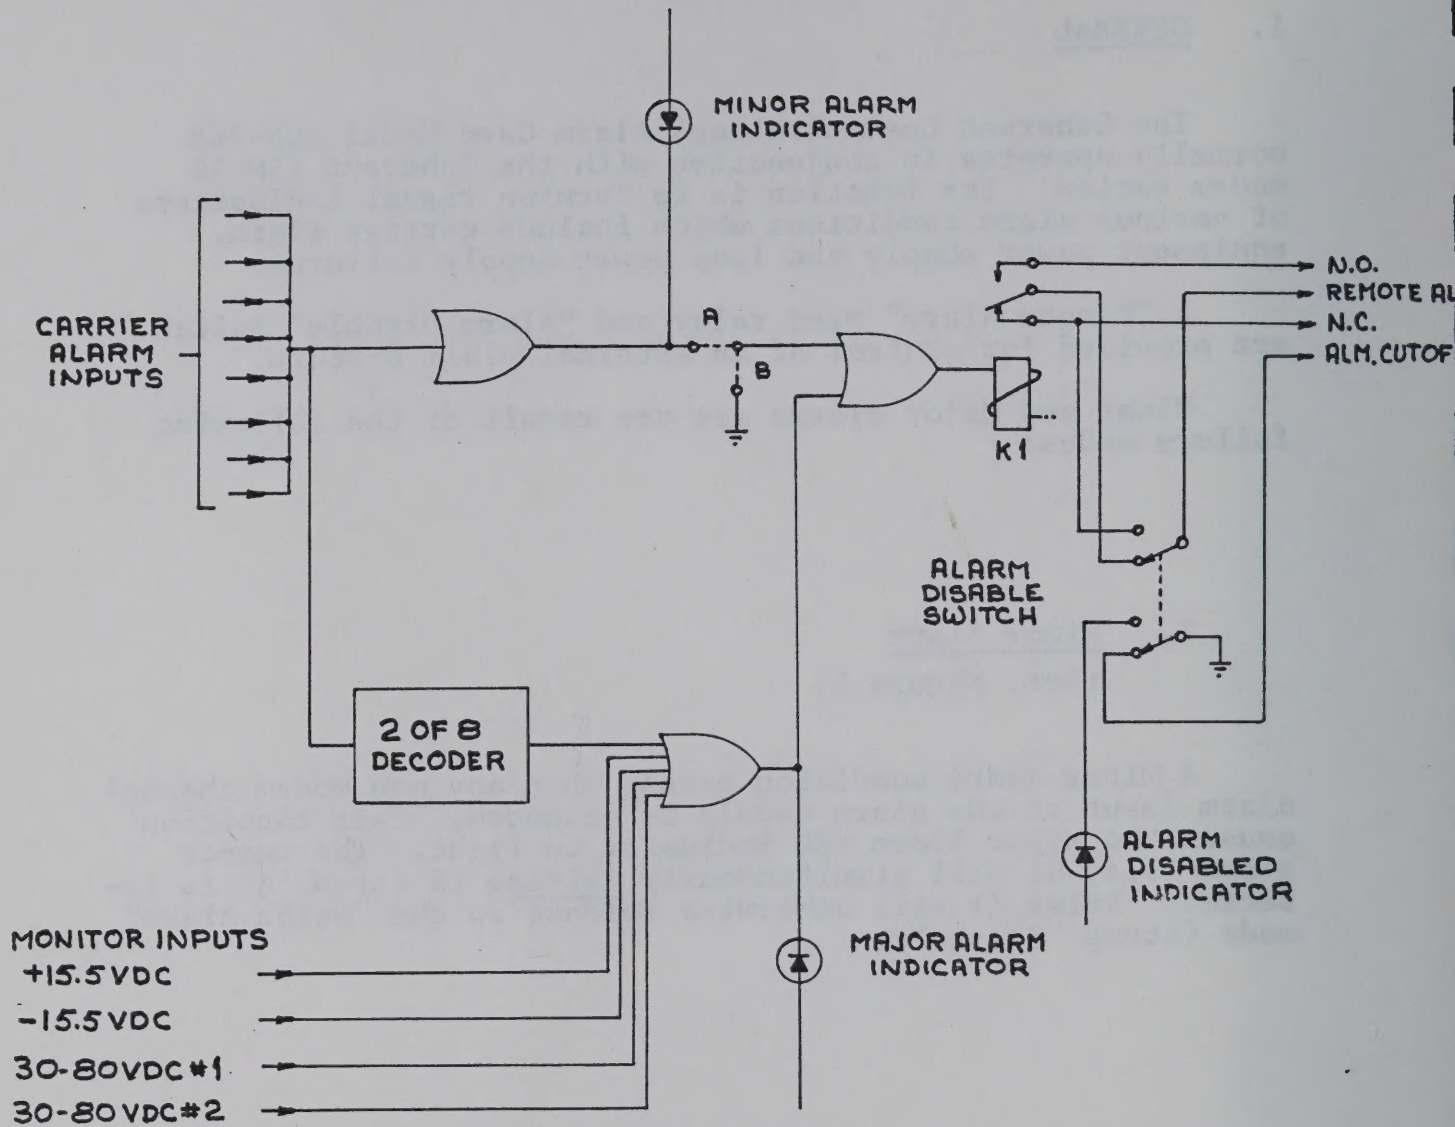

FIGURE 1. SIMPLIFIED BLOCK DIAGRAM, ALARM MODULE ALN-76B
Functional Diagram, Figure 1
(Ref. Figure 1)
2. Major Alarm (Ref. Figure 1)